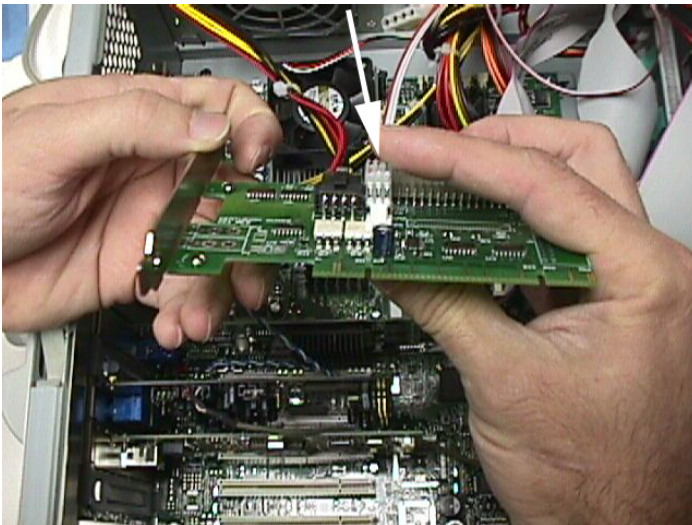

Figure 5
Step 5. Attach the keylock cable to the PCI board as shown in Figure 5.